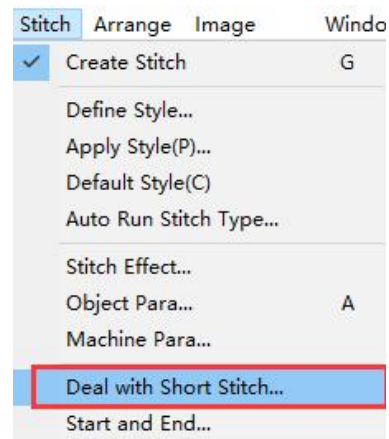

Figure 2
2.Click on the handle short stitch step in the menu stitch position (Figure 2),